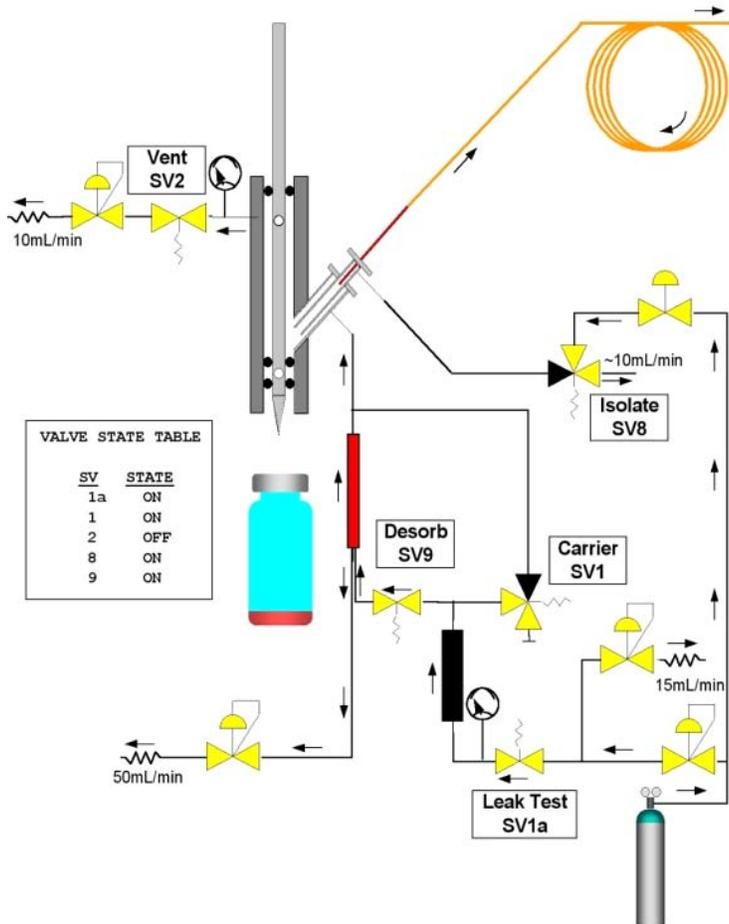
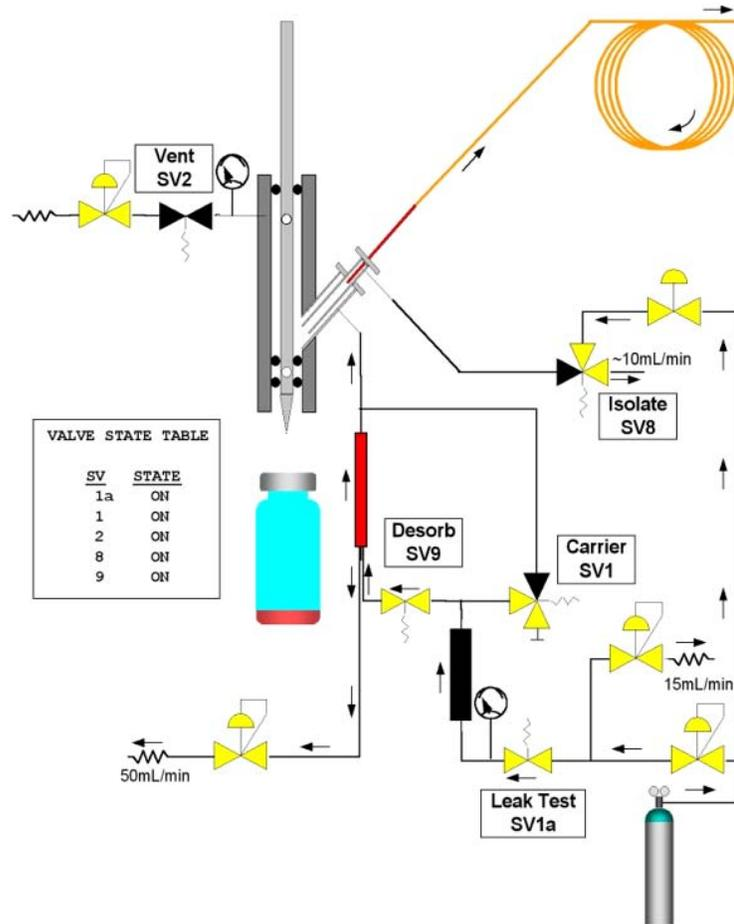

Figure 122 Split Trap Test
Figure 123 Splitless Trap Test
During this test, the Isolation Flow is shut-off, thus allowing, the trap desorption effluent to be transferred (injected) into the transfer line and the analytical column. The analytical head pressure is now supplied by the PPC module. See Figure 122 if you are running split setup. See Figure 123 if you are running a splitless setup.
- If the analytical requirements demand an HS Split operation, check the Outlet Split box on the OPTION tab. The VENT solenoid valve SV2 is kept open and a Split Flow of approximately 10 ml/min is used (Needle Purge outlet). See Figure 122.
- If HS splitless operation is used, SV2 is closed. See Figure 123.